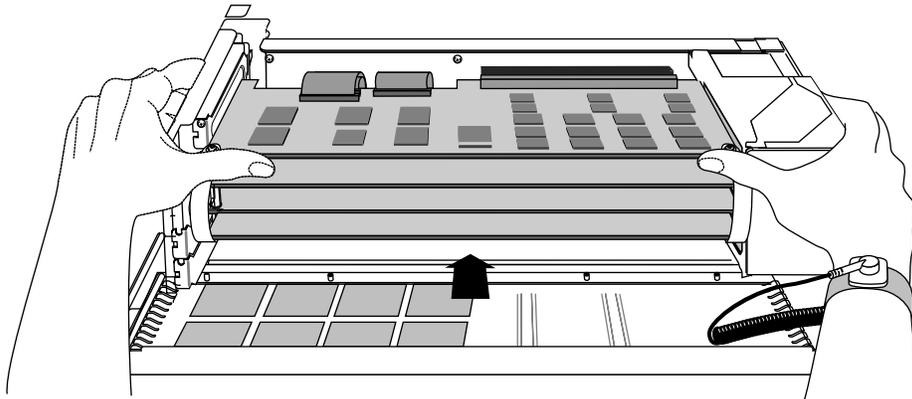

Figure 1-24 Inserting the Board Set Into the Chassis
2. Slide the boards into the chassis and push the board connectors into the corresponding midplane connectors. See Figure 1-24. Putting pressure on the topmost board of the set helps to seat the boards completely.